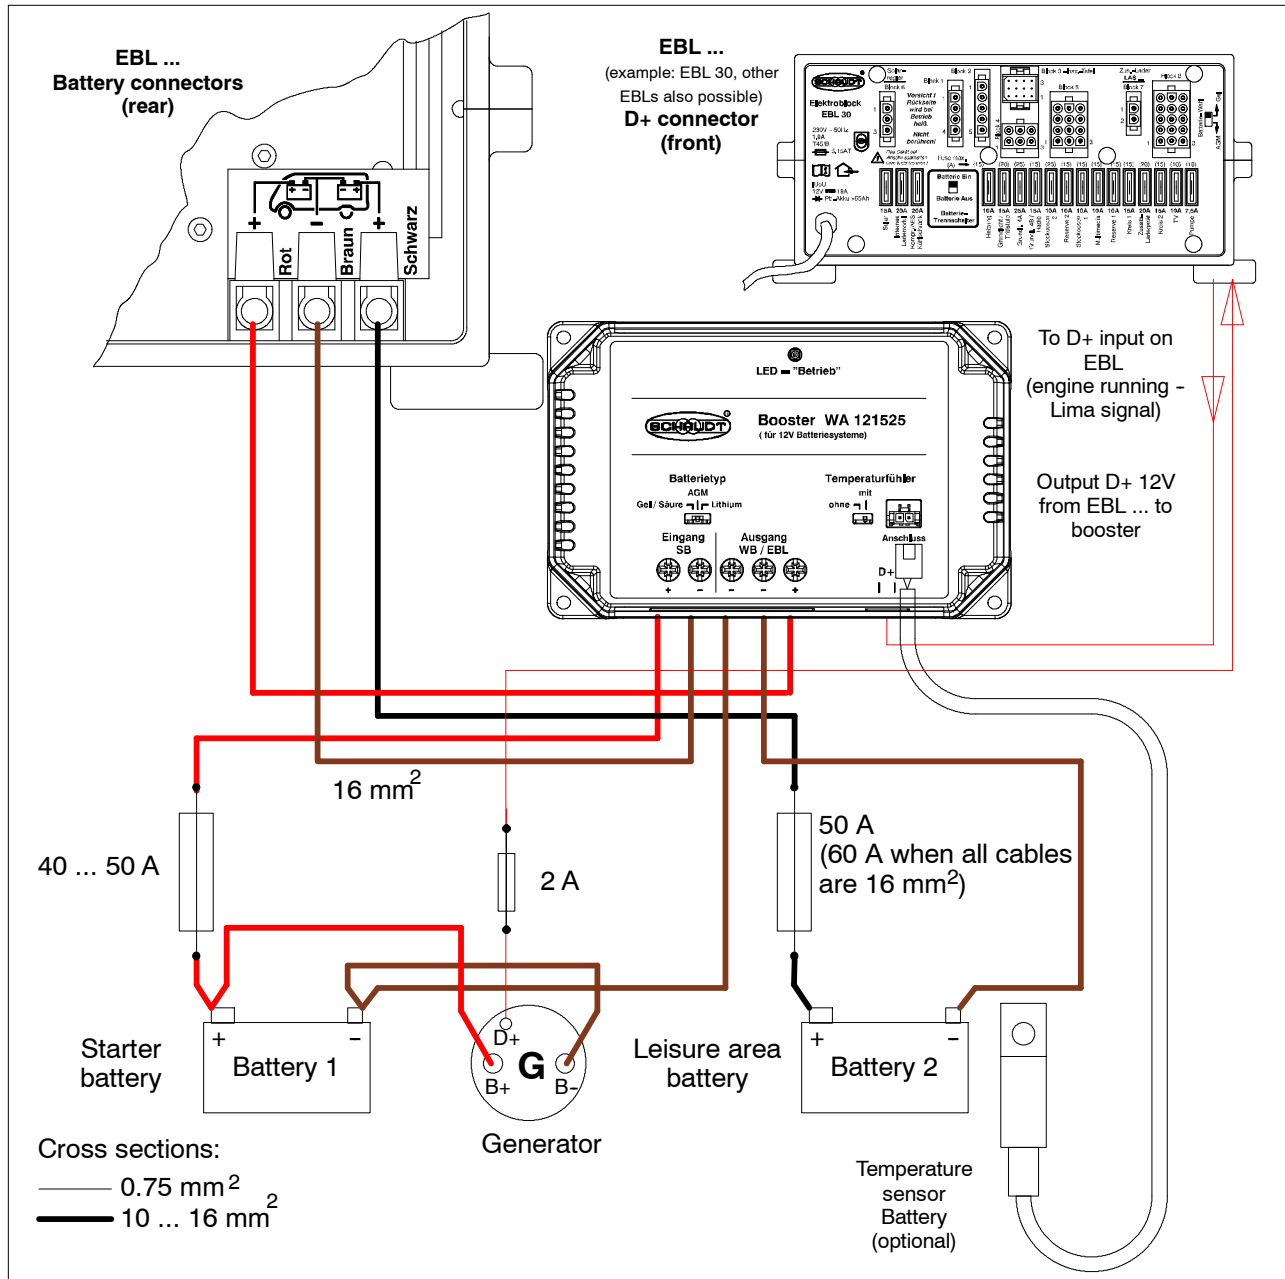
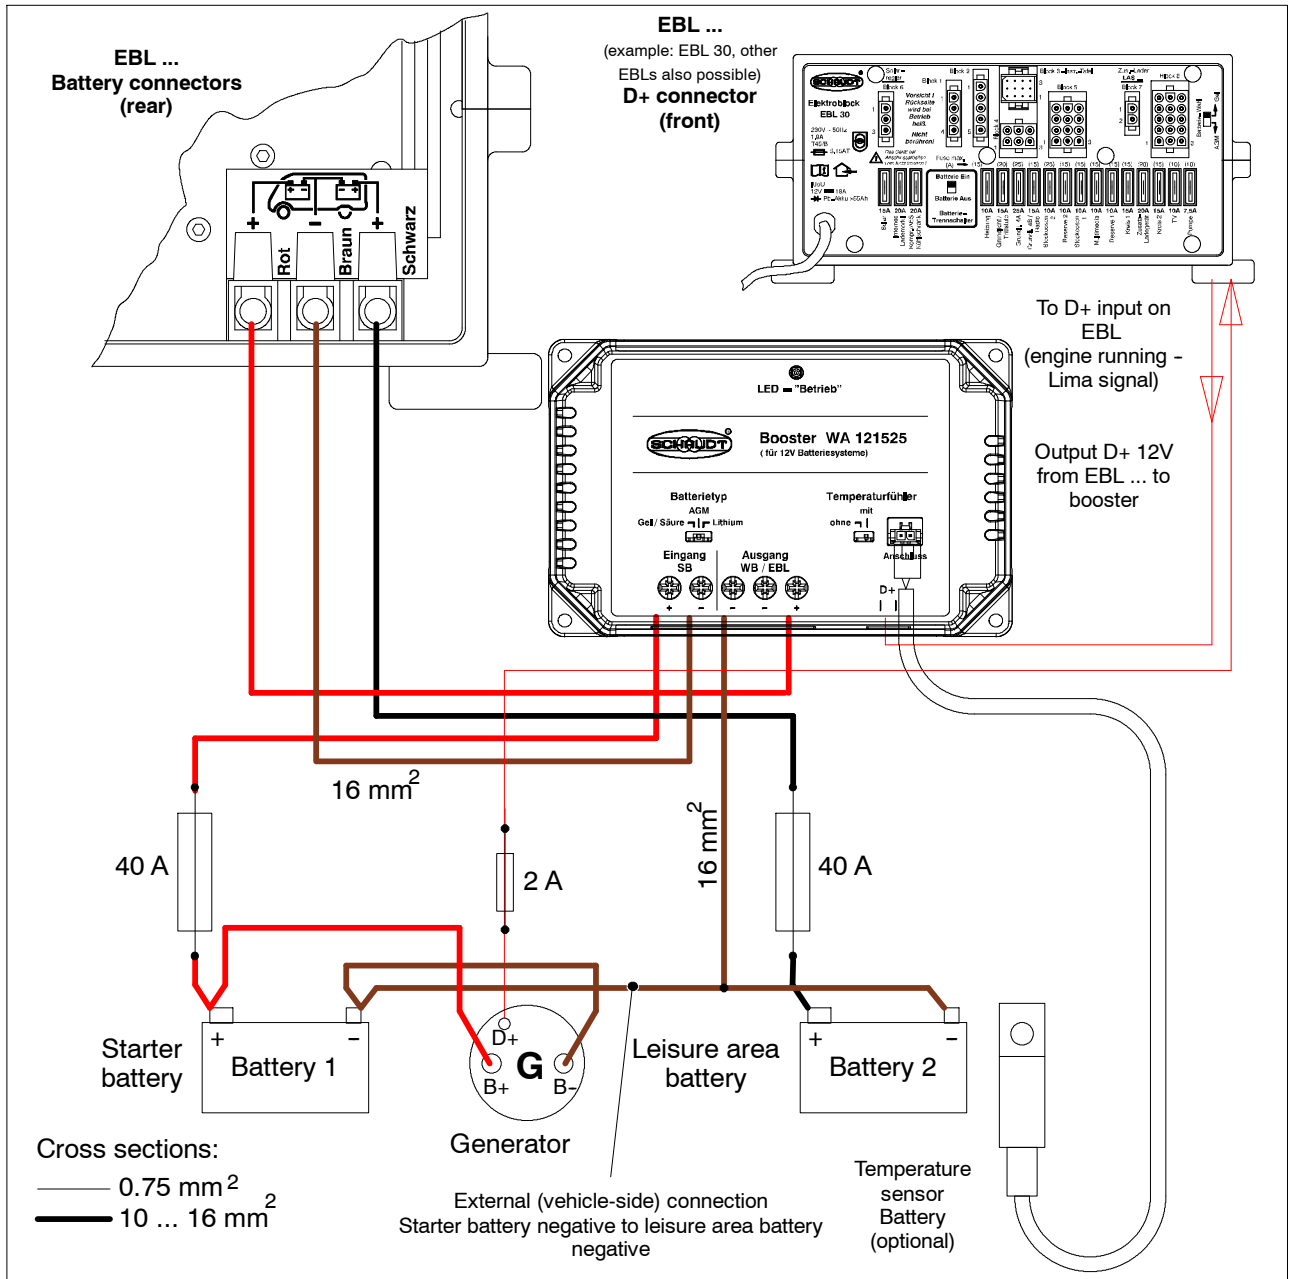

Fig. 2 Vehicles with Schaudt EBL ... - ground on booster
Fig. 3 Vehicles with Schaudt EBL ... - external ground
- ▶ Establish all cable connections as in Figure 2, 3 or 4. Ensure the cables have the cross sections required and that the fuse holders are installed correctly. Do not yet insert the fuses into the holders.
For vehicles in which the cabling can be as shown in Figure 2, the ground connection on the booster between the leisure area battery and the starter battery is an absolute requirement. The two batteries may not be directly connected (e.g. inside the vehicle's cabling). If they are, the wiring **must** be as in Figure 3.
If the ground cable of the two negative terminals has fixed routing through the vehicle, and there is only one tap to the booster at this ground connection, the cabling looks as in Figure 3.
▲ On conventional systems, the supply cable of the fridge is used to charge the starter battery for mains operation. The connection as in Fig. 2 or 3 is required. No additional bypass relay is required.